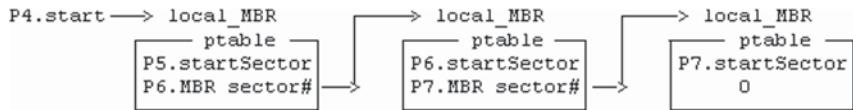

Fig. 3.17 Link list of extended partitions
If a partition is EXTEND type (5), it can be divided into more partitions. Assume that partition P4 is EXTEND type and it is divided into extend partitions P5, P6, P7. The extend partitions form a link list, as shown in Fig. 3.17.